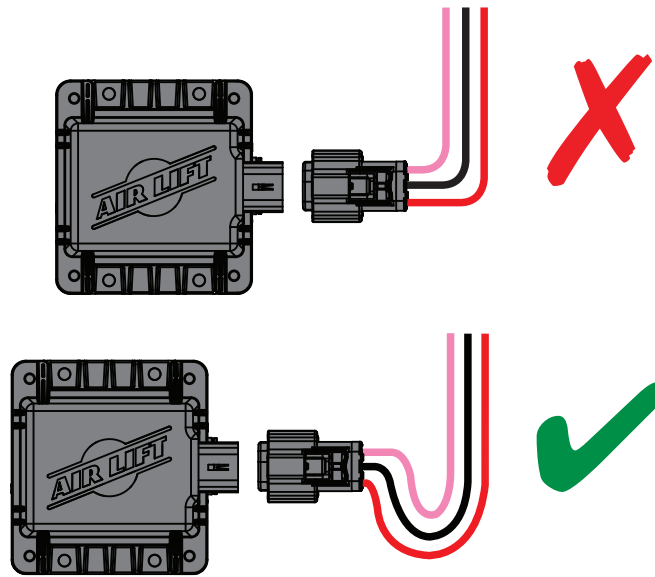

fig. 6
- Connect the wiring harness (D) to the manifold (Fig. 2). Press the connector on completely and listen for an audible “click.” Press white lock on connector toward manifold to lock connector in place. Ensure a proper drip loop exists to prevent water intrusion (Fig. 6). Install the fuse (F) last. The system will automatically fill to 5 PSI (.34BAR) once the fuse is installed.